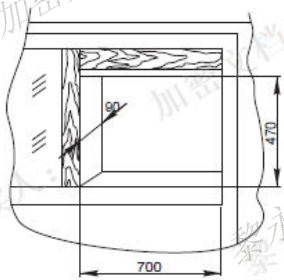
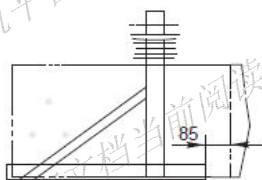

Fig.1
Fig.2
2. A wooden frame as shown in fig.1 is advisable if the appliance is installed through a window. The installation bracket as shown in fig.2 should not be welded with the window sash.